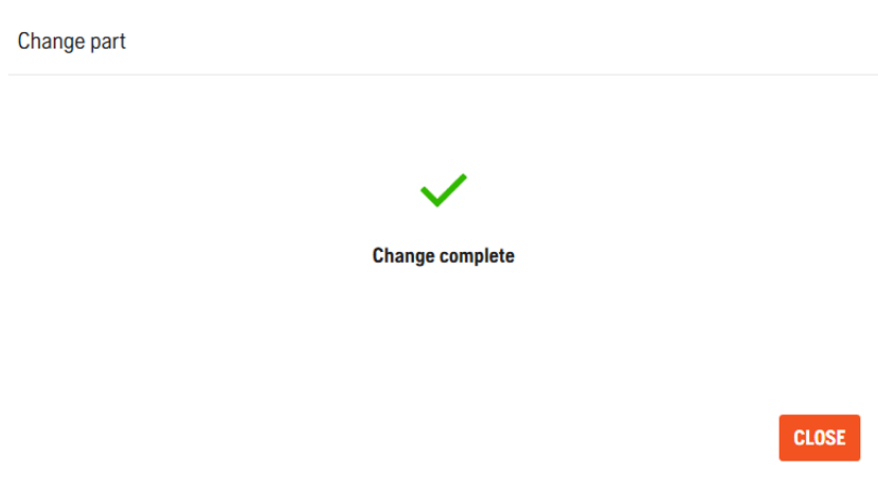

Figure 11:
12. The job is now complete, and the new part is paired with the product (figure 11).